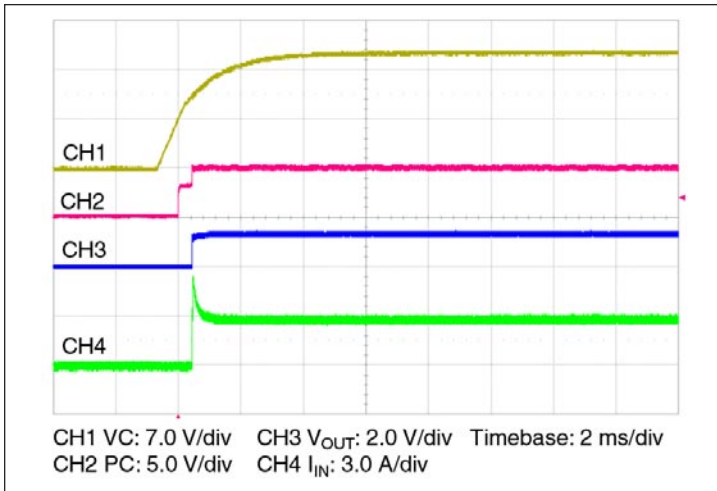

Figure 11 — Start up from application of VC;
- Stand-alone operation (VC applied after VIN): In this case the VTM module output will begin to rise upon the application of the VC voltage (See Figure 11). The Adaptive Soft Start Circuit (See Section 11) may vary the output rate of rise in order to limit the inrush current to its maximum level. When starting into high capacitance, or a short, the output current will be limited for a maximum of 120 µ/sec. After this period, the Adaptive Soft Start Circuit will time out and the VTM module may shut down. No restart will be attempted until VC is re-applied or PC is toggled. The maximum output capacitance is limited to 64400 µF in this mode of operation to ensure a successful start.